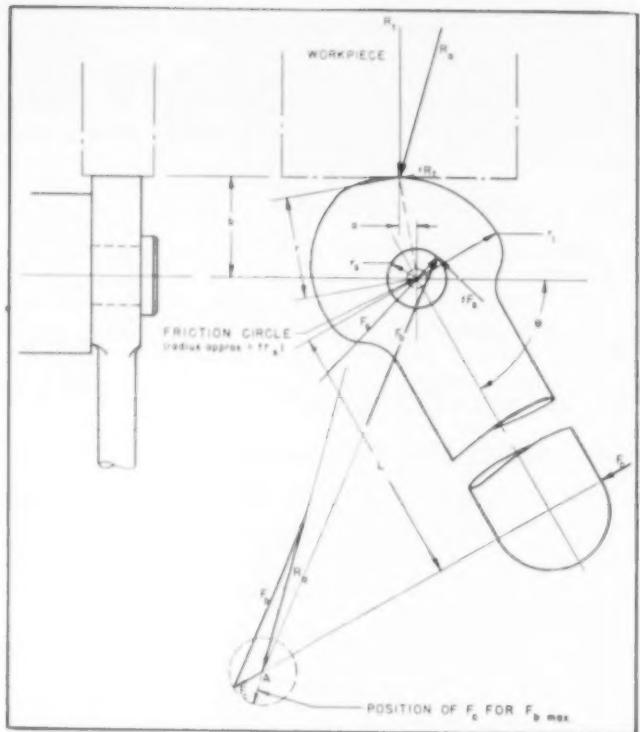
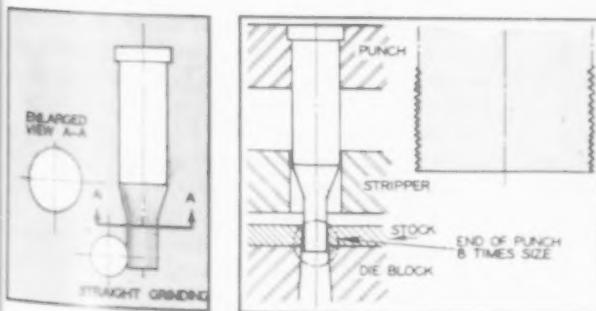
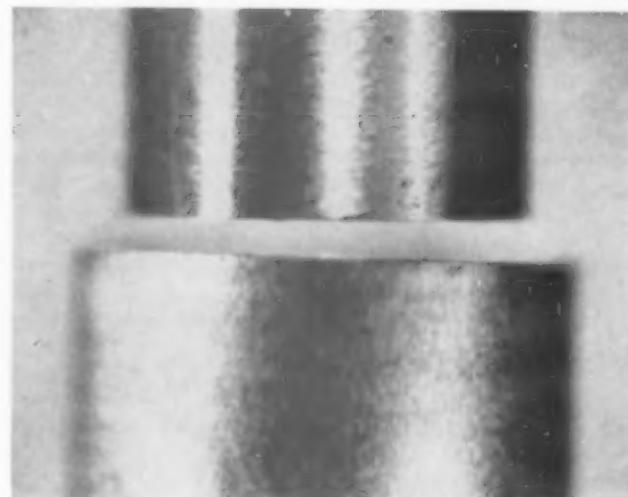

Fig. 2. Illustrated above are the forces which act on a spiral cam at engagement.
Fig. 1 (left) shows the direction of grinding lines on a straight ground punch, as opposed to cylindrical grinding (Fig. 2, right).
Fig. 3 The contrast between straight grinding (punch at bottom) and cylindrical grinding is shown in the micro-photo above.
The thickness of the cam also determines partly the load of the pivot or shaft on which the cam is mounted. If the cam rotates on the pivot, as in Fig. 2, the projected area (length X diameter) of the bearing must be large enough to keep the unit pressure on it below 3000 to 4000 psi in keeping with accepted practice for bearings for slow speed and intermittent loads (3).
The lever arm L , of Fig. 2 and the applied force F_c , make the applied torque, which is
Example 1: A spiral cam clamp like that of Fig. 2 must impose a force of 900 pounds on the workpiece. The handle can be pulled through 90 deg with a minimum force of 30 pounds, which at times may be as high as 90 pounds. The desired rise is $\frac{1}{8}$ inch. A shearing stress of 10,000 psi in the pin is acceptable. The cam is of steel to be hardened to 400 Brinell. Find the size of the pin, the minimum radius, lead, and thickness of the cam, and the lever arm needed.
The general scheme for production grinding the cam track can be visualized from Fig. 2. A master cam *A*, attached to the work head, actuates a follower roll *B*. The latter, mounted on a swinging spindle head, in turn controls and determines the path that the grinding wheel *C* shall take in grinding the cam path on the component, which is located and clamped to the front of the master cam *A*.
To maintain accurate distance between the centerline of the follower roll and the center line of the grinding wheel, the part of the fixture to which the follower roll is attached was made adjustable. Sliding on gibbs, this part can be unloosened and moved in or out by a knob, designated by letter *B* in Fig. 2. A dial indicator, fastened to a V-block, is used for setting and checking center-to-center distance. For the final grind, the grinding wheel must be an exact diameter,
as indicated by Fig. 3. To insure the required accuracy, a fixture was designed to hold the diamond dressing tool and to control the feed thereof. This fixture—designated by *F*, Fig. 2—was attached to the spindle head.
Fig. 1. Outline of chain cam and gear, showing the cam track. This chain cam gear, which is a part for one of the gun mounts used by the Navy, actuates the tray and ramming mechanism.
Fig. 2. Close-up of the setup showing chain cam and gear in position for cam grinding operation. Letters A, B, C, D, E, F and G indicate respectively master cam, follower roll, grinding wheel, swinging spindle head, adjusting knob for follower roll, diamond wheel dressing fixture and locating block for angular location.
An arbor was made and inserted in place of the grinding spindle, at the end of which was a free-rolling follower $1\frac{1}{2}$ in. in diameter. Free to roll and move in the cam path as the component slowly rotated, this follower now governed the swinging spindle head so that the grinding wheel would finish grind the correct contour on the master cam. A locating block on the master cam, designated by *G*, Fig. 2, engaged gear teeth at a marked point on the component (Fig. 1). This assured correct positioning of the chain cam and gear when mounted.
Fig. 3 shows a standard grinding wheel dressed, relieved and chamfered to permit straight side grinding of the cam track
and given at angular intervals about the central point, position for inspection therefore corresponds to the setup for grinding. In mounting the part for inspection on the checking fixture shown in Fig. 4, the part is positioned in angular relation to the gear teeth with a locating block exactly similar to block *G*, Fig. 2. Arm *A*, which holds the follower roll in the cam track, is free to slide horizontally in the block *B* and also over the central gaging pin as radial dimensions vary during the 360° angular rotation of the part. As the fixture table is progressively indexed to the corresponding angular stations, the radial measurements may be taken with a micrometer as illustrated. The overall rise and fall of the track ranges from 2 to 5 in. in the 360° degrees. To date less than 2 percent of these parts, ground by the method described, have been rejected.
Elimination of the weakening effect of machining and grinding surface imperfections is equally important. The point diameter should be ground concentric with the shank diameter for accurate alignment, and in such a manner that the surface imperfections run parallel to the punch axis and the line of action (see Fig. 1) rather than at right angles as would be the case if the point diameter were merely cylindrical ground (see Fig. 2). This can be seen in the binocular micro-photo shown in Fig. 3 of a straight ground and a cylindrical ground punch.
The surface condition at the cutting edge of the punch is a significant consideration in evaluating the difference in performance between the two types of grinds. Studies indicate that after a punch has been used for a short while the cylindrically ground punch chips and turns over at the edge earlier than does the straight ground punch. This can again be seen in Figs. 1 and 2. Punches do not differ from other cutting tools wherein it has been proven that honing or stoning the cutting edge to provide a more uniform surface increases the tool life between grinds. In a cylindrically ground punch this is not possible, while on the straight ground punch the hills and valleys of the surface run lengthwise and therefore provide full backing and a multiple cutting tooth action that in itself greatly increases the life of the punch between grinds.